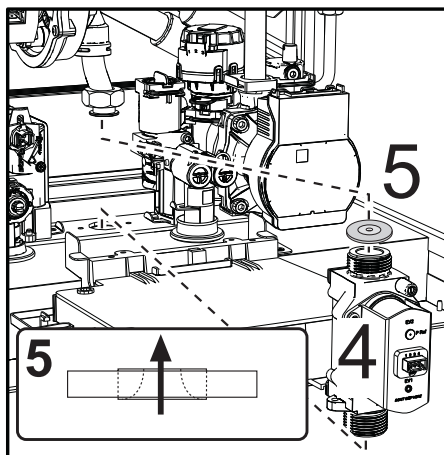

fig. 60
- Remove the gas valve “4” and the gas diaphragm “5” (fig. 60).